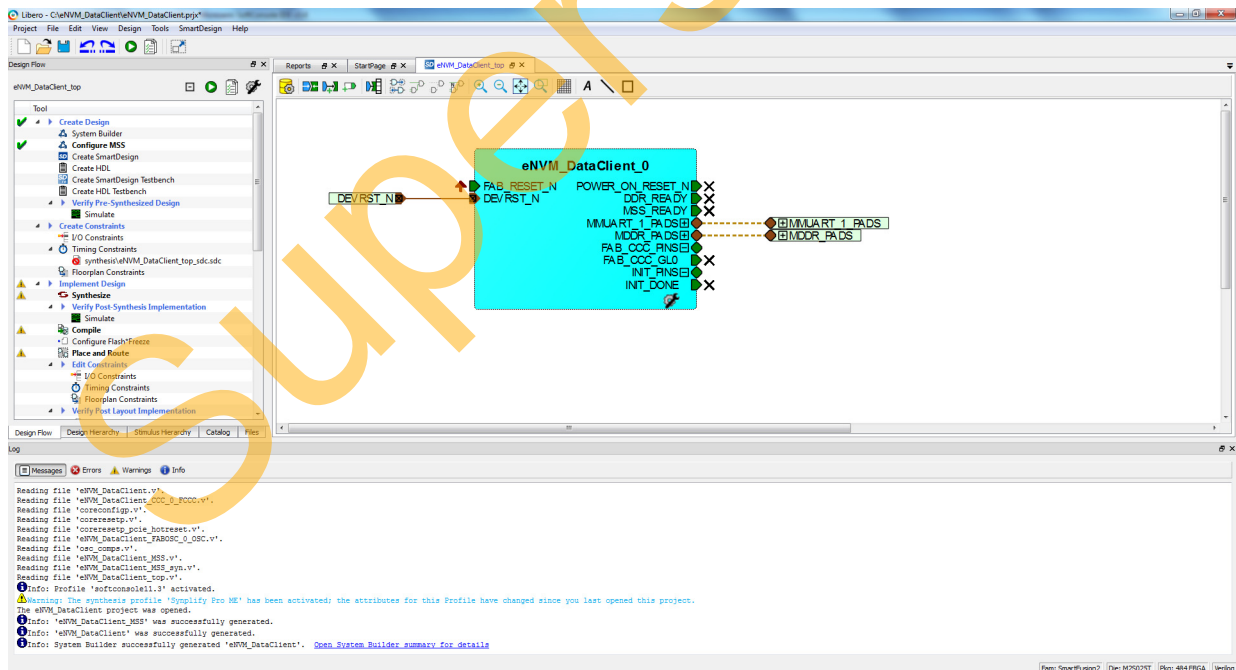

Figure 12 • eNVM_DataClient_top Tab
1. Open the Libero SoC hardware project **eNVM_DataClient_top** tab (see Figure 12).
2. Double-click **eNVM_DataClient_0** (see Figure 12) and go to **System Builder - Memories** page to add the eNVM Data Storage client.